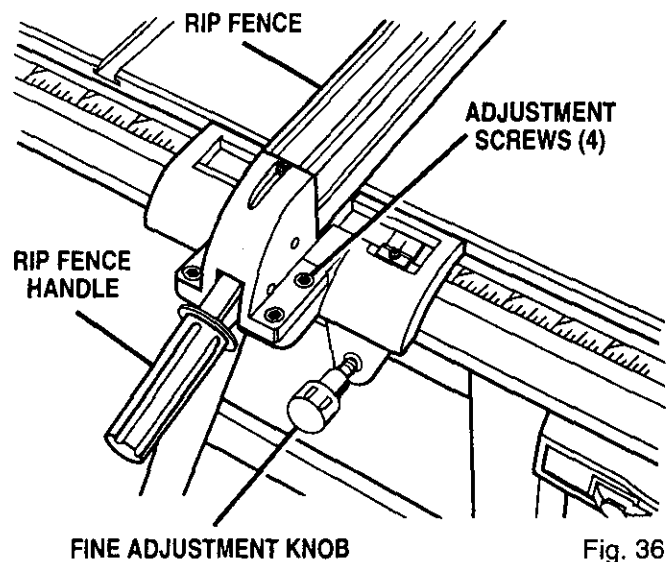

Fig. 36
- If the distances are different, loosen the four screws around the rip fence handle with a 6 mm hex key. Alternate the order (remove the screw opposite, not next to the first one). See Figure 36.